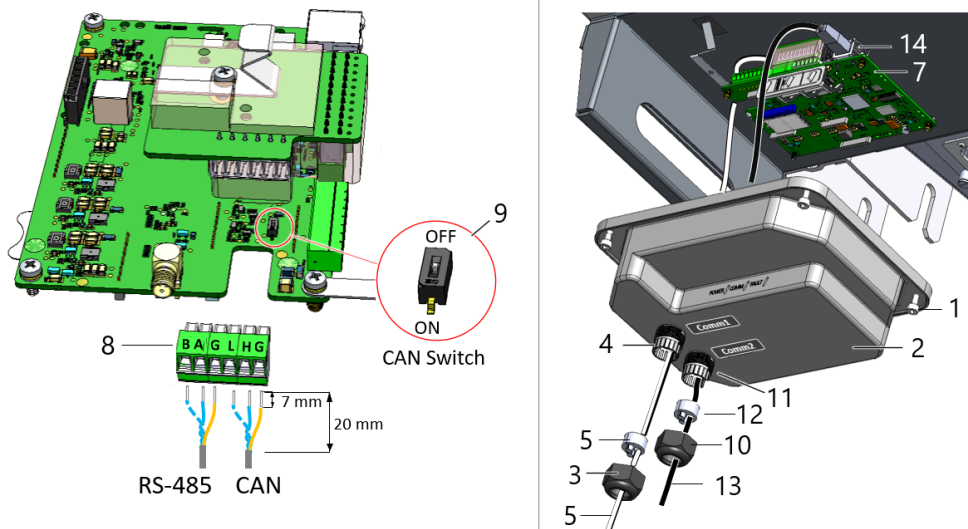

Figure 34: Connecting the communication cables
Make sure the CAN Switch (see item 9 in *Figure 34*) is set to ON position on the first and last inverters on the CAN bus.
4. Release the four Allen screws (1) of the communication compartment cover (2) and remove the cover (see *Figure 34*).
5. Loosen the nut (3) of Comm 1 gland (4) and remove the rubber seal (5).
6. Route the communication cable (6) via one of openings in the rubber seal, through the gland and communication compartment cover (2).
7. Pull down to remove the communication board (7) from the enclosure.
9. Secure the wires to the terminal screws of the connector (8) and plug the connector to the communication board (7). Connect the other end of the cable to the same terminals of the next inverter. Make sure the resistance between H and L is 120Ω.
10. Terminate the first and last inverters on the communication bus by moving the CAN Switch (9) to ON. All other inverters on the bus must be switched to OFF.
11. Install the communication board (7) back onto the enclosure.
12. Place the communication compartment cover (2) and secure the four Allen screws (1) to a torque of 3.9 N\*m/34 lb\*in (see *Figure 34*).
13. Place the rubber seal (4) inside the gland nut (3) of Comm1 gland (13) and fasten the nut to a torque of 5.5 N\*m/49 lb\*in.
1. Loosen the nut (10) of Comm2 gland (11) and remove the rubber seal (12) from within (see Figure 34 ).
2. Route the Ethernet cable (13) through one of openings in the rubber seal, and through the gland, into the enclosure.
4. Plug the Ethernet cable (13) into the LAN port (14).
5. Attach the communication board (7) to the enclosure.
6. Insert the rubber seal (12) into the Comm2 gland (11) and tighten the nut to 5.5 N\*m/49 lb\*in.
7. Place the communication compartment cover (2) and secure the four Allen screws (1) to a tourqu of 3.9 N\*m/34 lb\*in.